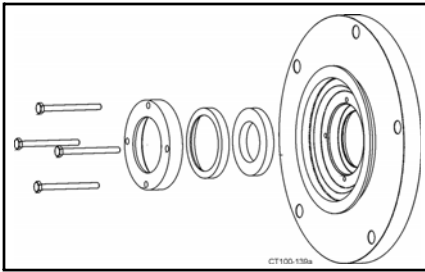

Figure 23 - Stationary Seal Assembly
4. Insert L-gasket (Figure 23, item D) into backplate seal cavity.
5. Place stationary seal into L-gasket. (Figure 23, item C and D).
6. Place seat retainer over stationary seal and secure retainer with four 1/4-20 x 1/2 inch hex head cap screws. (Figure 23, item B and A).